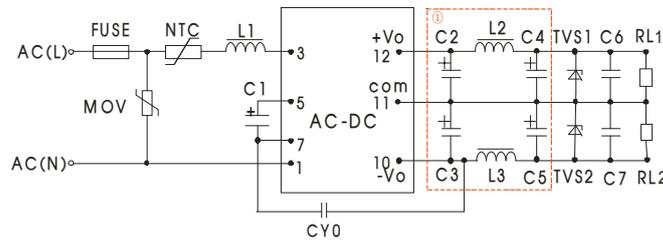

Fig. 1: Typical circuit diagram
- 2.It is necessary to add circuit to the output,such as the typical application of Figure 1.